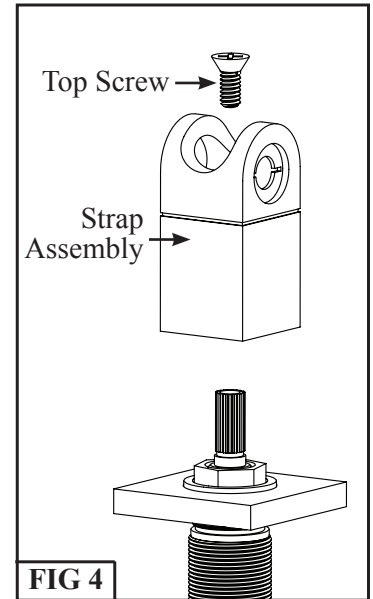

FIG 4
Step 2: Install the Strap assembly onto the valve stem and thread the Top Screw onto the Valve. See **FIG 4**.